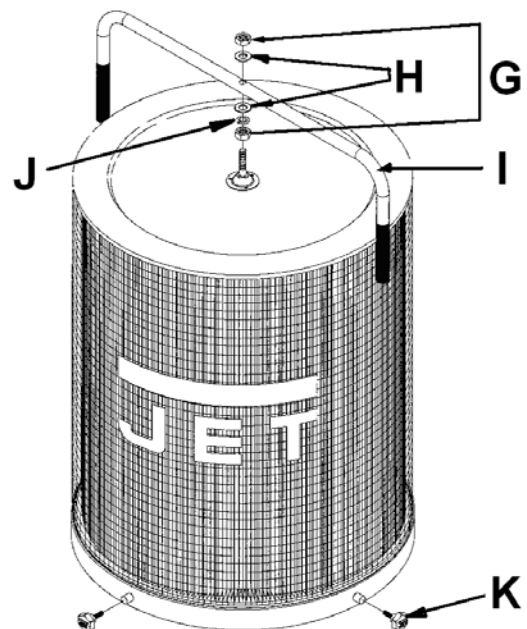

Fig 11
Mount the handle (I, Fig 11) with 2 hex nuts (G), flat washers (H) and a lock washer (J).